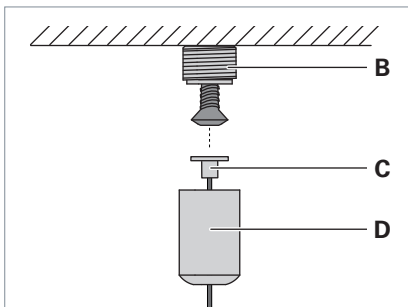

Fig. 7: Mounting the ceiling fixture.
- ▶ Screw the thread **B** to the ceiling at the distance **a** from the previously mounted holding plate using a suitable screw, see Tab. 2 and Fig. 7.